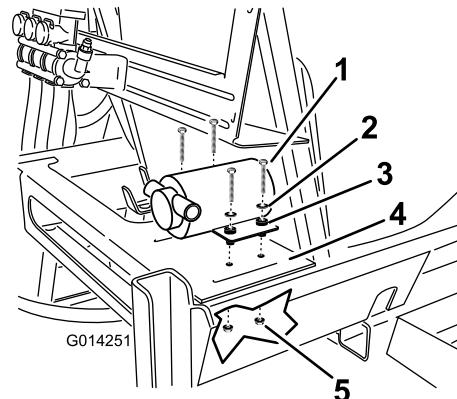

Figure 19
1. Locate the pump in loose parts and secure it to the tank frame on the platform at the rear, on the right-hand of the main tank (Figure 19).
2. Secure the tank to the frame using 4 bolts, 4 washers and 4 locknuts (Figure 19).